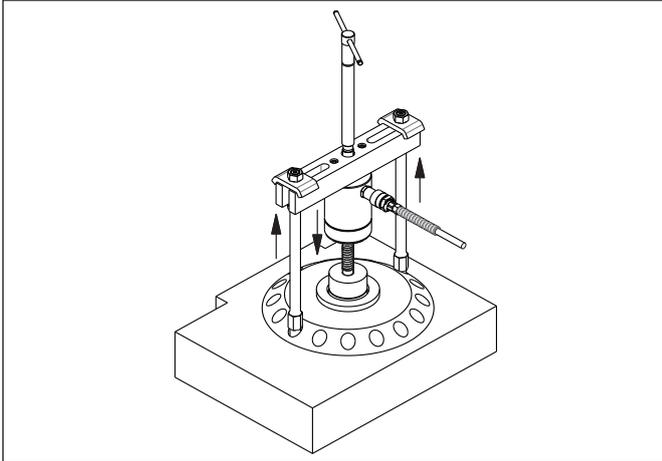

Figure 11, Cross Bearing Puller (typical)
The cross bearing puller may be used independently by attaching the legs directly to the workpiece to be extracted (see Figure 11). In this case, the puller legs must be threaded directly into the workpiece (refer to Section 11.7 for thread specifications). Alternatively, the cross bearing puller may be used in conjunction with the Bearing Separator Attachment (see Section 7.5) or the Bearing Cup Puller (see Section 7.6).
- Install the puller on the bearing, pulley or other item to be removed. Align puller legs. See Figure 11.